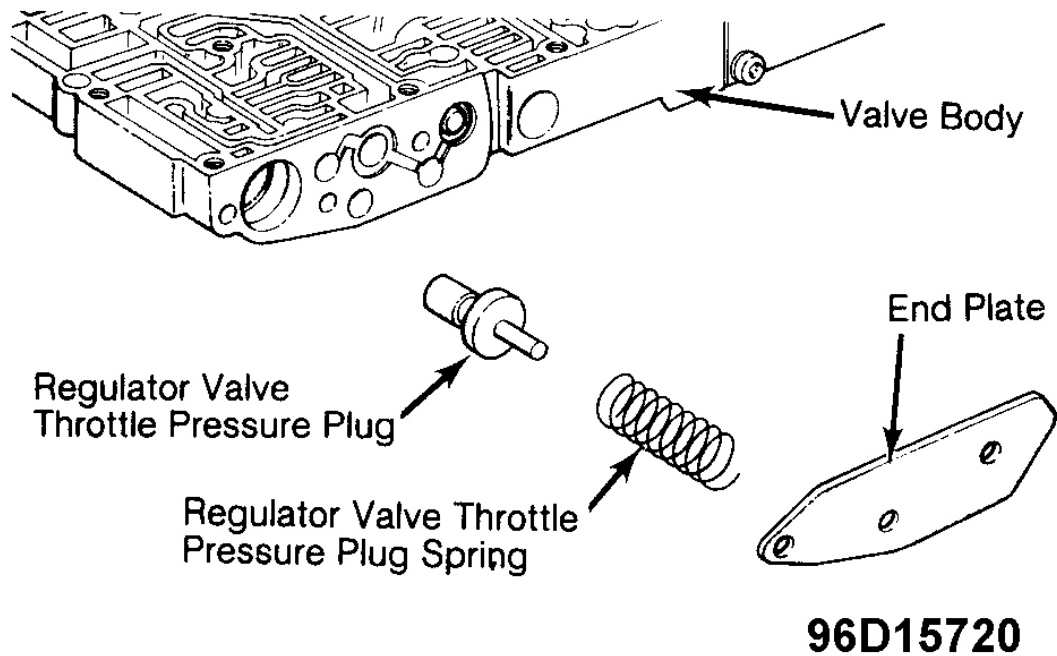

Fig. 12: View of Regulator Valve Throttle Pressure Plug Assembly
6. Remove end plate screws and carefully remove end plate. Remove regulator valve throttle pressure plug spring and valve. See Fig. 12 .